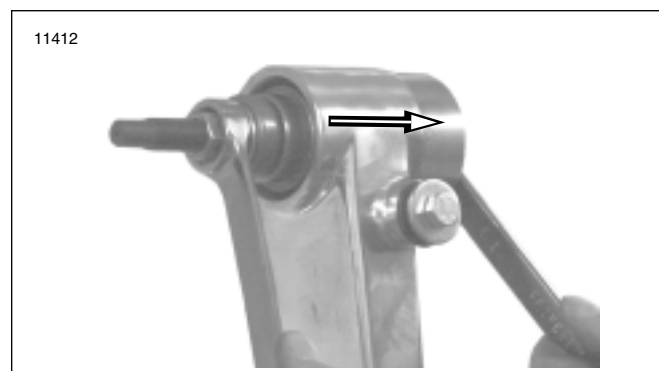

Figure 2-161. Install Left Side Swingarm Bearing (typical)
1. See Figure 2-161. Load new swingarm bearing onto swingarm bearing remover/installer and insert into swingarm.